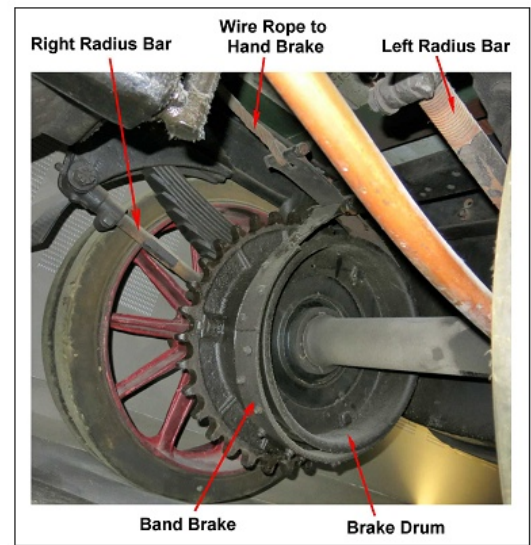
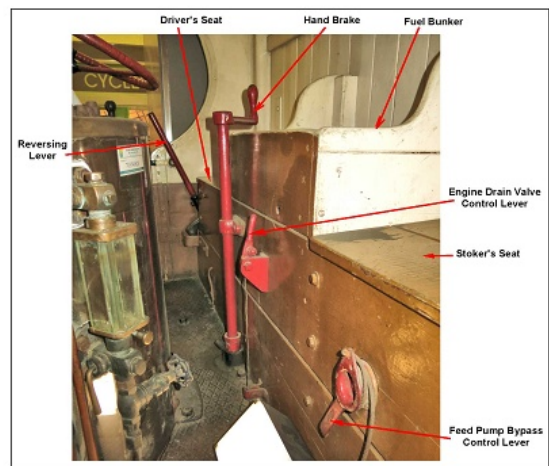

Figure 10
Figure 12
**6.2.1 Rear Axle and Differential Gear.** The axle is connected to the chassis frame by semi-elliptical leaf (plate) springs which are bolted to the axle bearing housing. The longitudinal (fore and aft) position of the axle is maintained by radius bars (Fig. 10). These are attached to the chassis frame at one end and to the axle bearing housing at the other end.
**9.1 Hand Brake.** The rear axle has a friction band brake, with a wide and large diameter drum, bolted to the adjacent transmission chain sprocket wheel (Fig. 10). Applying the hand brake therefore locks the transmission. The brake was applied by hand, from the drivers position in the cab, through a screw, bevel gears, links, pins and wire rope (Fig. 12). The hand brake was used for all normal conditions. It should always be put on when the waggon was standing and should be screwed up ready for immediate use when approaching hills (ref. 1).